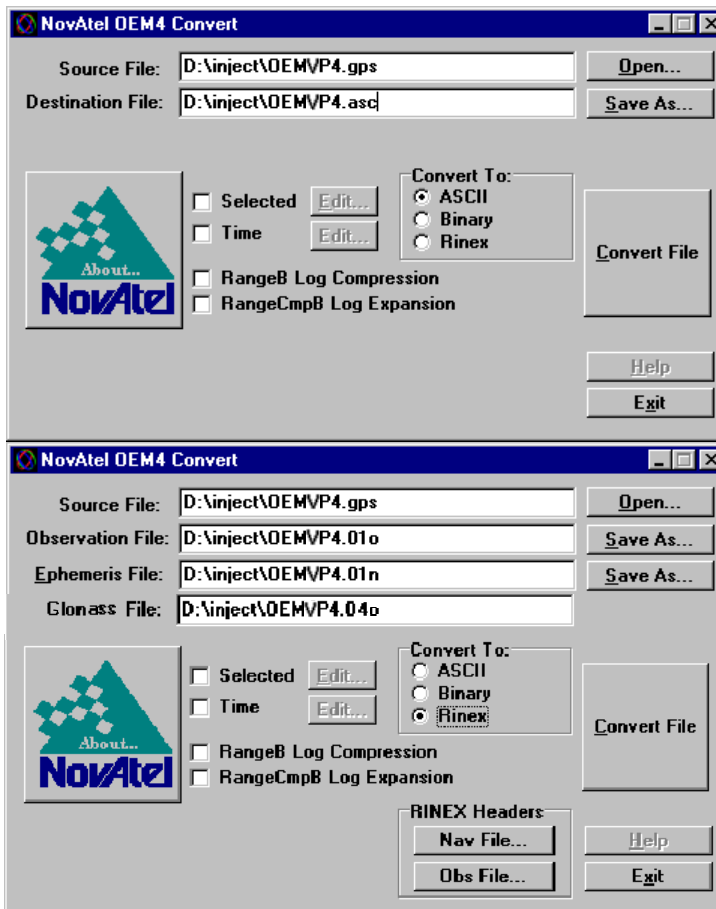

Figure 21: Convert Screen Examples
Convert is a 32-bit Windows application and is shown in *Figure 21*. Convert will accept GPS file formats and convert them to ASCII, Binary or Rinex format. The application also allows the user to screen out particular logs by selecting the desired logs from the list of available logs. This feature is useful for screening particular logs out of large data files in either ASCII or Binary formats.
Selecting the RINEX field, see *Figure 21, Convert Screen Examples on Page 74*, in the Convert To section causes the:
- Information from this log overrides data entered into the Receiver Number, Type and Version fields using the OBS file button of the RINEX Headers section, see *Figure 21 on Page 74*.